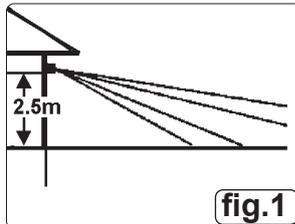
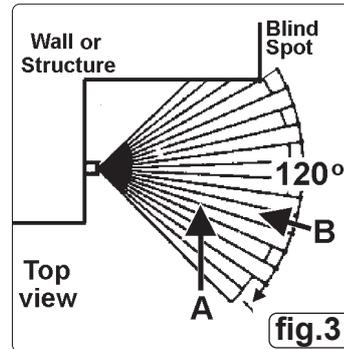

fig.1
fig.3
- 4.1.2. An approximate appropriate mounting height from the ground is 2.5m. See fig.1.
- The sensor may be angled independently of the light. Mounted at approximately 2.5m above the ground the sensor will have approx 12m range (fig.1) with a 120° spread (fig.3)
- 4.2.2. Further adjustment may be made by tuning the three switches located on the underside of the sensor as follows: (fig.3).